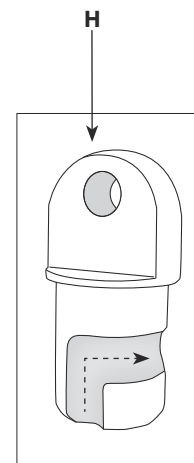

FIG. 3: End Plug close-up
- 6** Center the Awning Curtain (C) in the Mounting Bar (F), and squeeze together neatly with a pair of pliers both ends of the Mounting Bar (F), locking the panel assembly in place.
- 7** Attach the Support Arms (A) to the end of the Roll Tube Castings (E) and twist until locked.
- 8** Insert the End Plugs (H) into the end of the Support Arm (A) and twist until locked. Install the end of the Support Arm (A) into the Wall Bracket (W) and attach with a screws. *See Fig. 3*